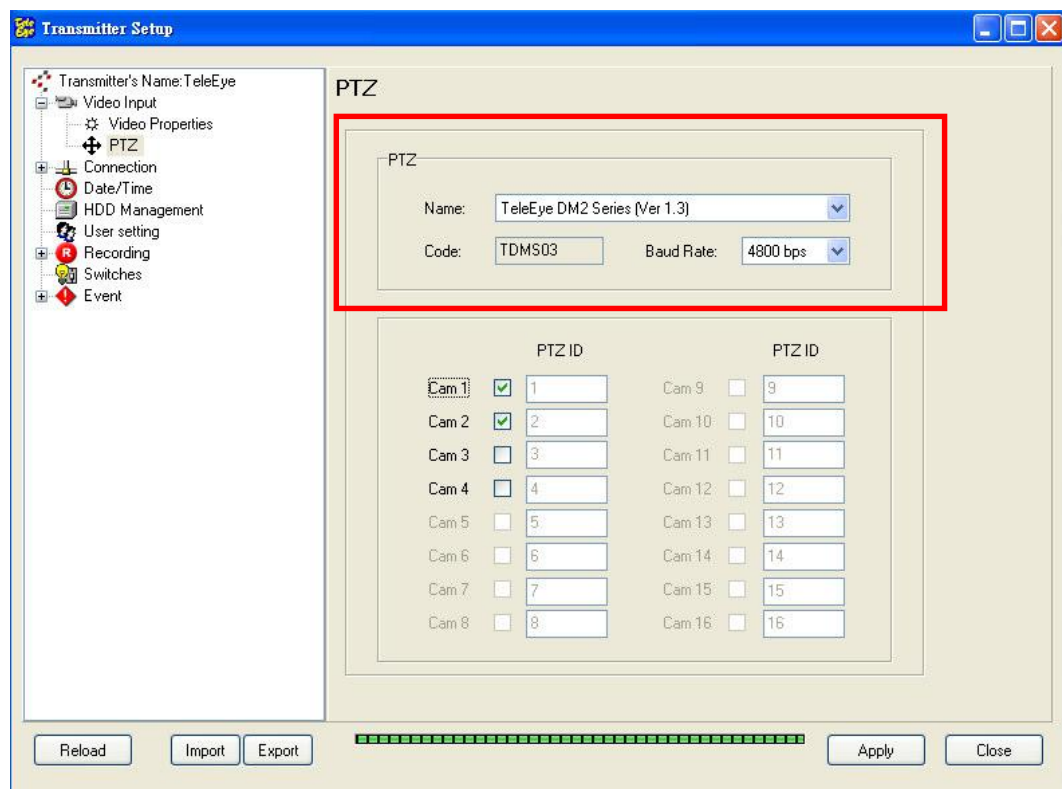

Fig 9.1a
Step 1 : Click [Transmitter Settings] icon on the main panel and input the administrator password to pop up {Transmitter Settings} panel as shown on **Fig 9.1a**. Choose [Video Input]→[PTZ] option to do the PTZ camera settings.